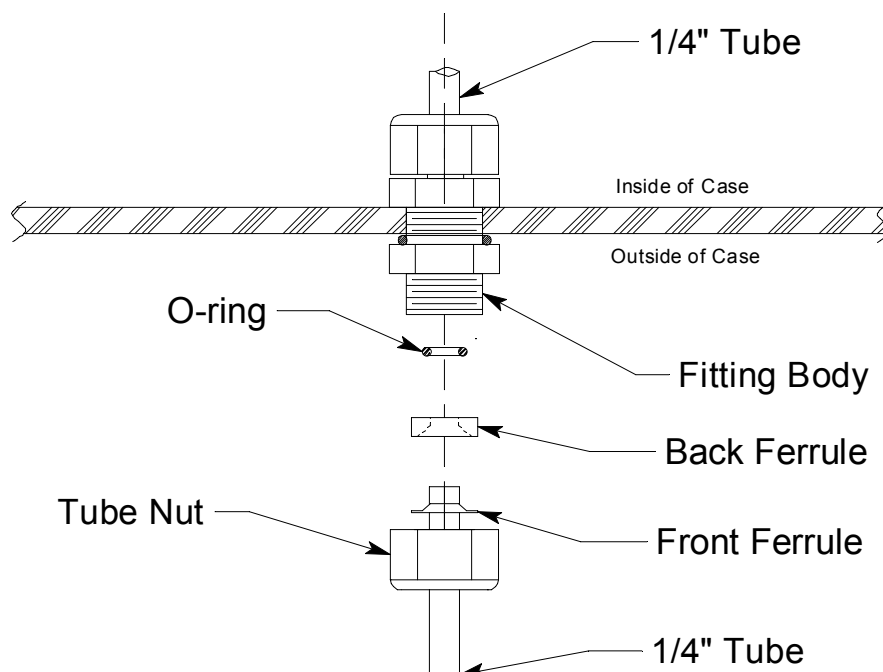

Figure 5: Inlet Fitting with Tubing Stub
4. Push the new tubing up through the inlet fitting tube nut and replace the ferrule set and the O-ring, if it came out, in the orientation shown in Figure 5.